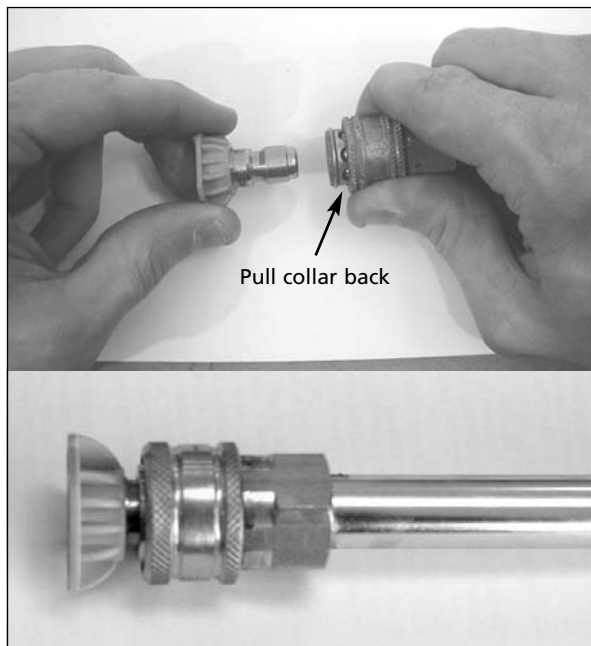

Figure 6 - Quick Connect Tip
6. Install quick connect tip by pulling back on collar and pressing in tip. Release collar, make sure it completely returns to its forward position and tip is secure (See Figure 6).